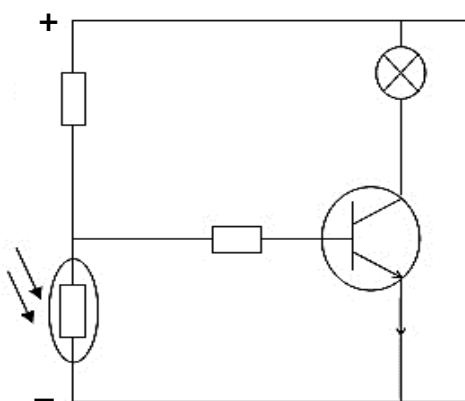

Figure 4
10. Describe why a resistor is connected in series to the transistor in the system shown in the Figure 4.